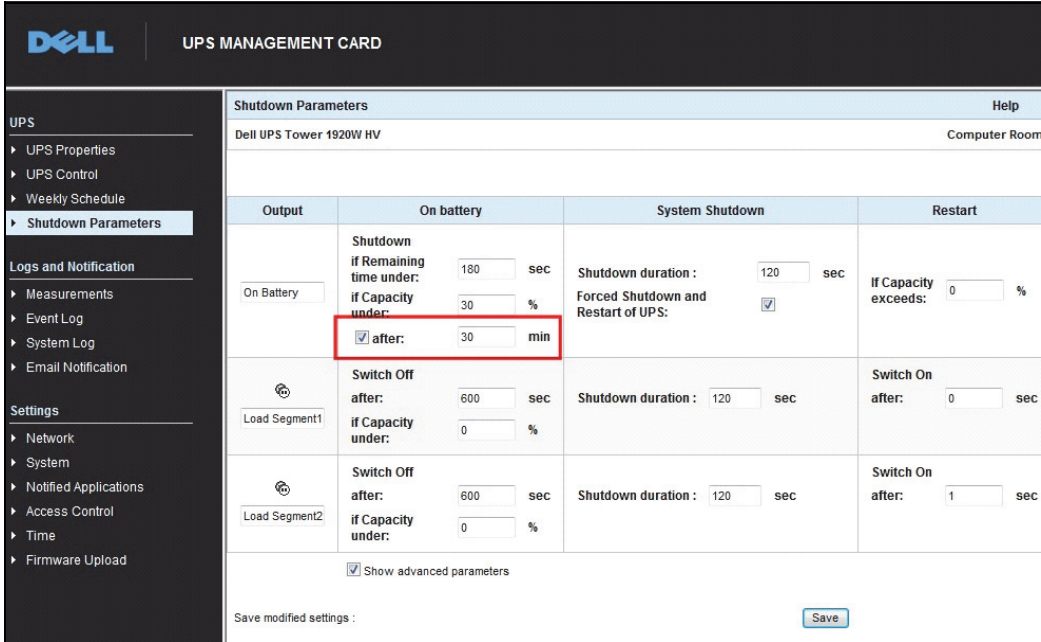

Figure 70. Dell Network Management Card Shutdown Parameters
- Figure 70 illustrates the Dell Network Management Card Shutdown configuration available from **UPS > Shutdown Configuration**.